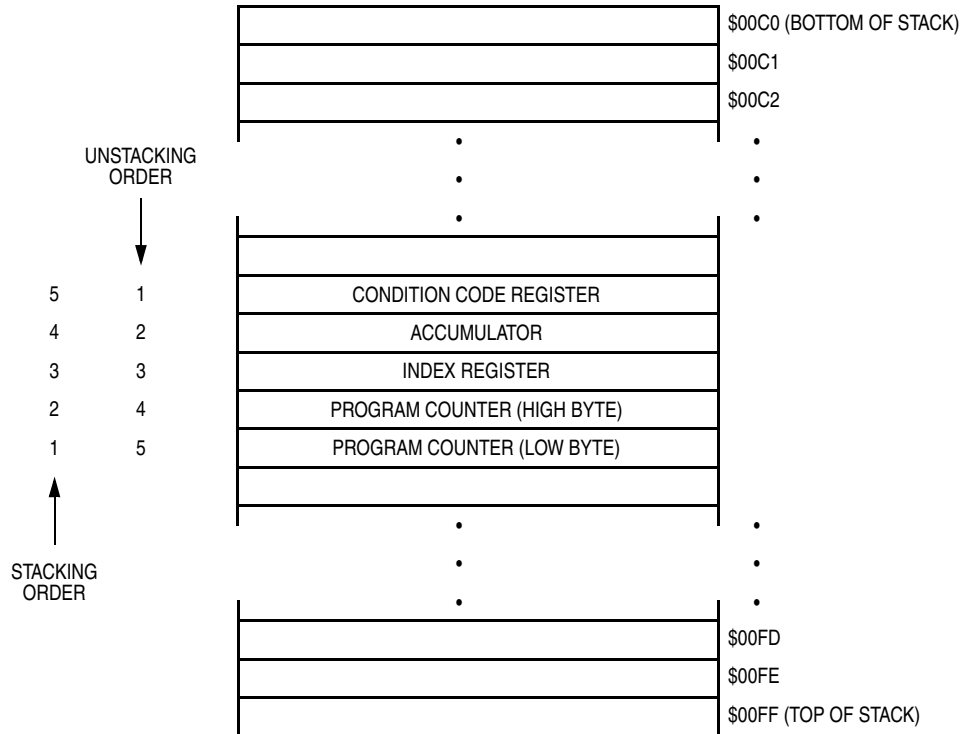

Figure 8-6. Interrupt Stacking Order
- Stores the CPU registers on the stack in the order shown in Figure 8-6
The return-from-interrupt (RTI) instruction causes the CPU to recover the CPU registers from the stack as shown in **Figure 8-6**.